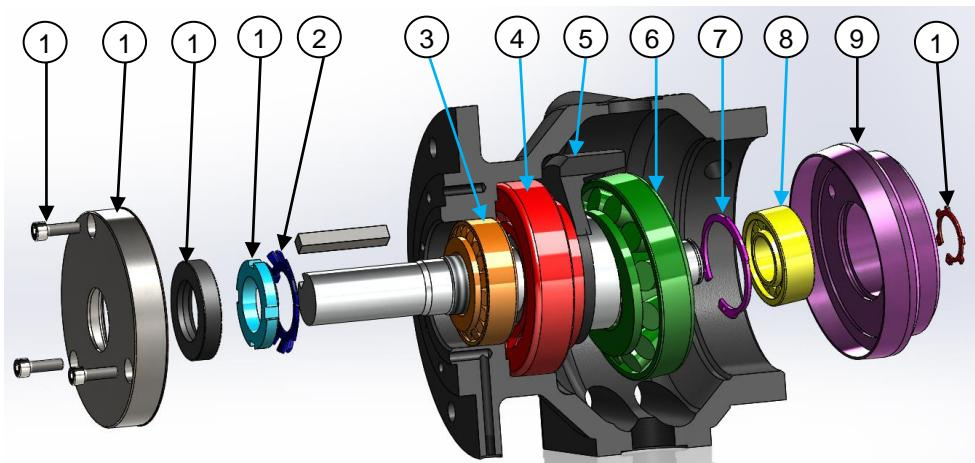

**Figure 7 – Delivery Valve Assemblies**
7. Position the delivery valve seats (blue – figure 9.1) with o-rings installed into the cylinder block, assemble the remaining delivery valve sub-assembly components as in figure 7 and screw them into the cylinder block. Torque to 65-70Nm.